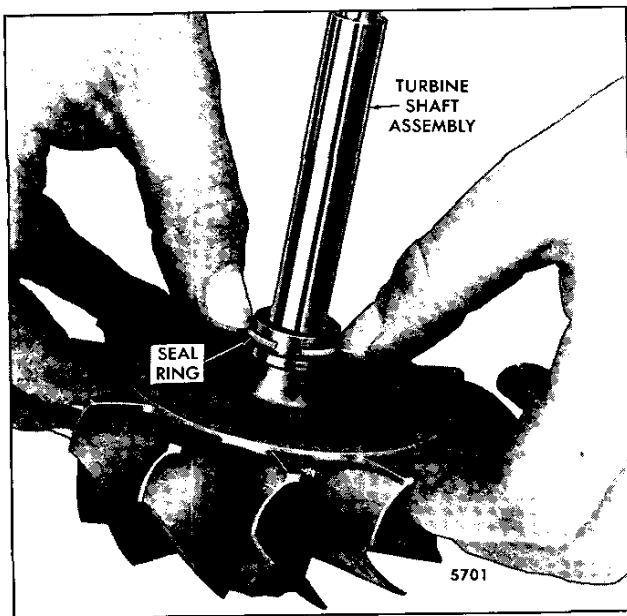

Fig. 13 - Installing Seal Ring on Turbine Shaft
2. Lubricate a new piston ring with clean engine oil and install it in the ring grooves of the wheel and shaft assembly (Fig. 13). *Do not over expand the ring.*